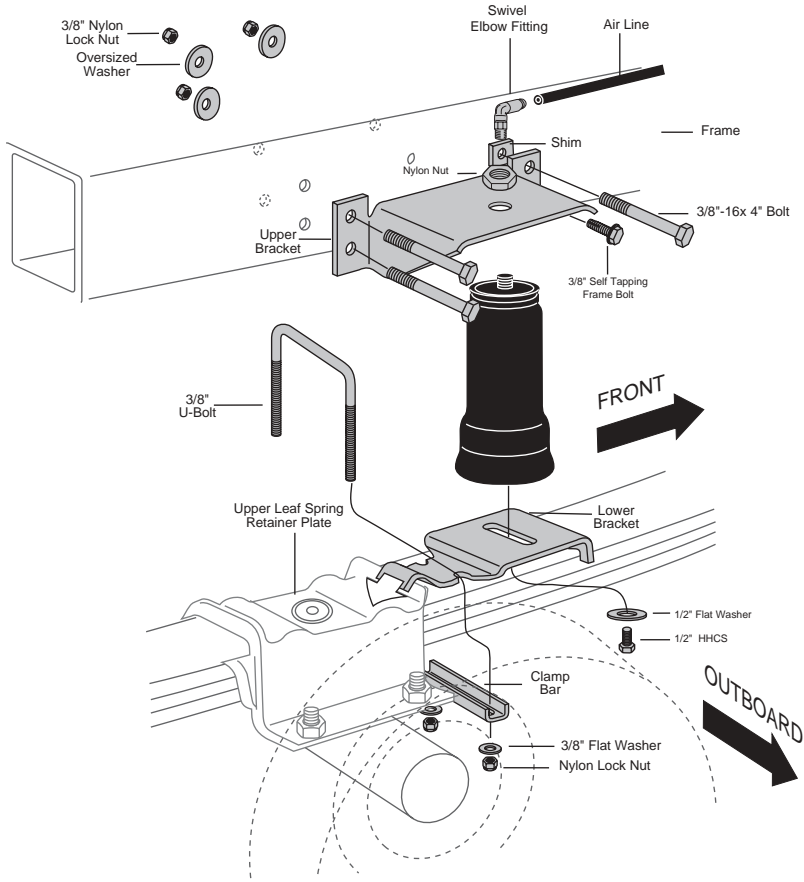

Figure 2
- a. Centerpunch and drill a 3/8" hole through the forward, upper mounting hole. Place a shim (U) between the upper bracket and the frame and attach using a 3/8" bolt. Secure using a flat washer (M) and a nylon lock nut (J) (Figure 2). Leave loose at this time.